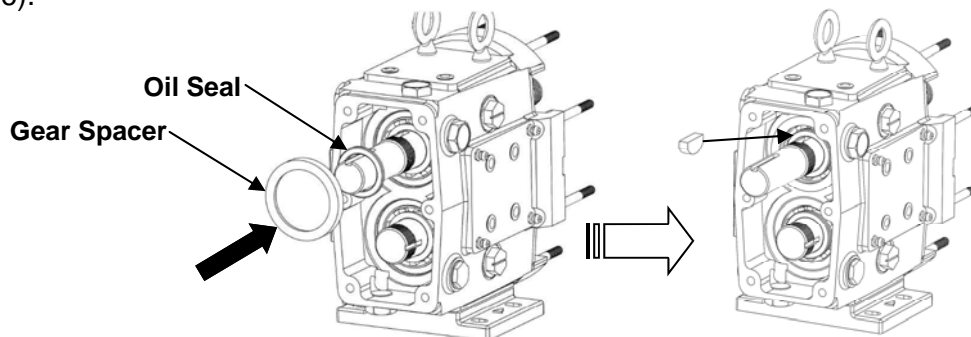

Figure 56: Rear Oil Seal and Gear Key Installation
7) Apply a light film of lubricant to the inside and outside diameters of the rear oil seals and install them into the back of the gear case with the spring side facing outward toward the gear. Install the gear spacers onto the shaft and place the gear keys into the shaft key slots (Figure 56).